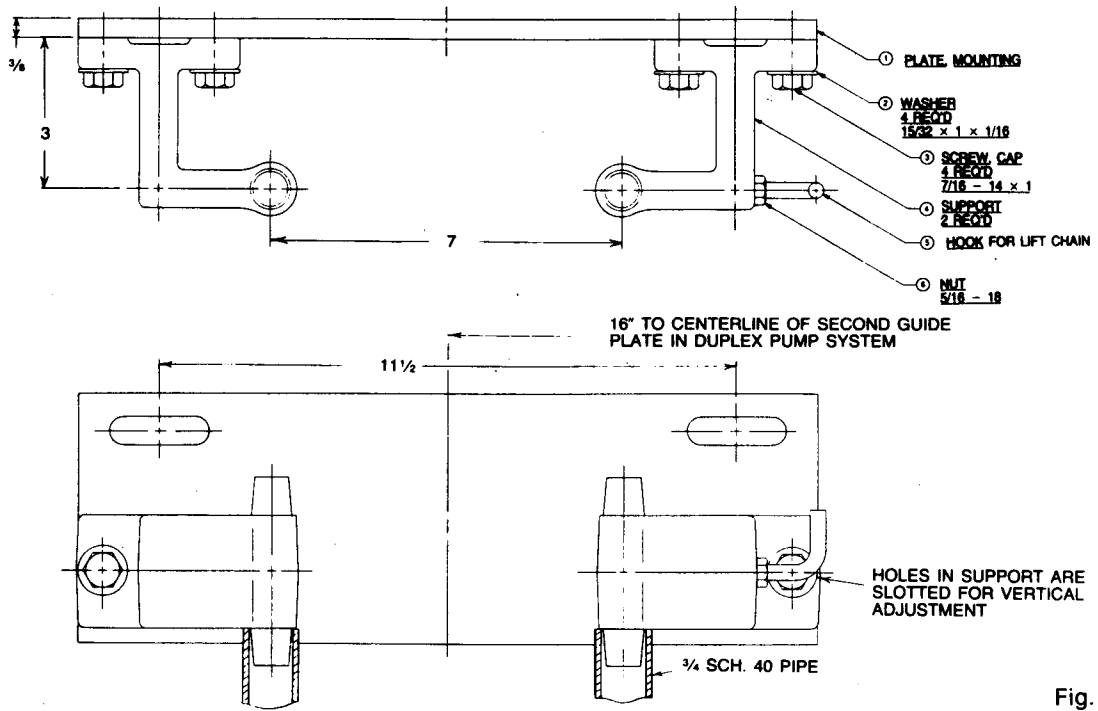

Fig. 4
2. Bolt rail guide plates, Fig. 4 to frame. Stainless steel bolts are screwed through frame angles when shipped and nuts are provided to hold the plate. Brackets have vertical slots so that they can be adjusted for final fit on rails. The plate has slots so the two plates in a duplex system can be adjusted to obtain 16" center-to-center distance between pumps.